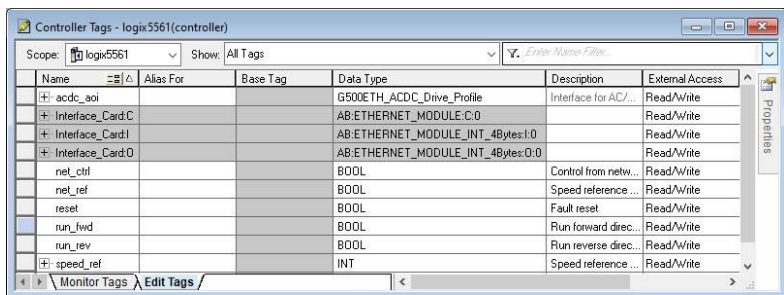

Figure 41: Create AC/DC Drive Profile AOI Tags
- 4) Create the tags in Figure 41.